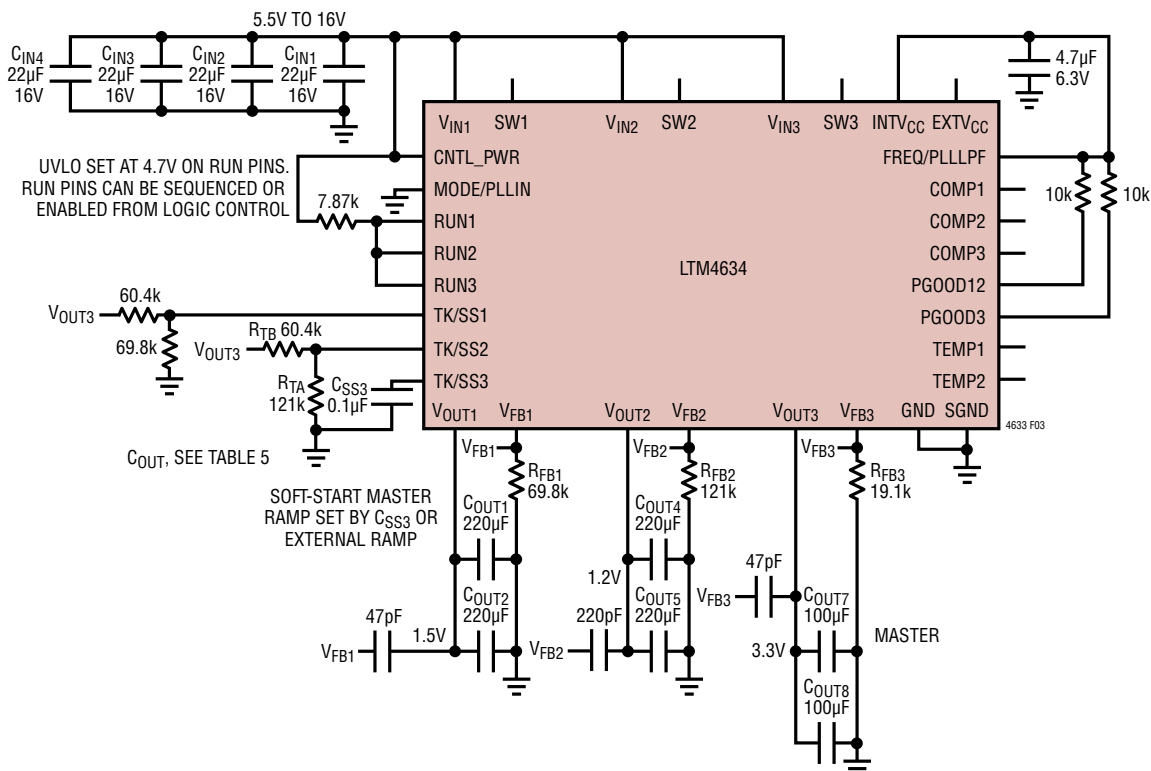

Figure 3. Triple Outputs (1.5V and 1.2V) with Tracking and 3.3V
60.4k resistor internally for the top feedback resistor for each channel. Figure 3 shows an example of coincident tracking for V_{OUT1} and V_{OUT2} . V_{OUT1} is the master and V_{OUT2} is the slave:
V_{TRACK} is the track ramp applied to the slave's track pin. V_{TRACK} has a control range of 0V to 0.8V, or the internal reference voltage. When the master's output is divided down with the same resistor values used to set the slave's output, then the slave will coincident track with the master until it reaches its final value. The master will continue to its final value from the slave's regulation point. Voltage tracking is disabled when V_{TRACK} is more than 0.8V. R_{TA} in Figure 3 will be equal to the R_{FB2} for coincident tracking.
where V_{FB} is the feedback voltage reference of the regulator, and V_{TRACK} is 0.8V. Since R_{TB} is equal to the 60.4k top feedback resistor of the slave regulator in equal slew rate or coincident tracking, then R_{TA} is equal to R_{FB} with $V_{FB} = V_{TRACK}$. Therefore $R_{TB} = 60.4k$, and $R_{TA} = 60.4k$ in Figure 3.